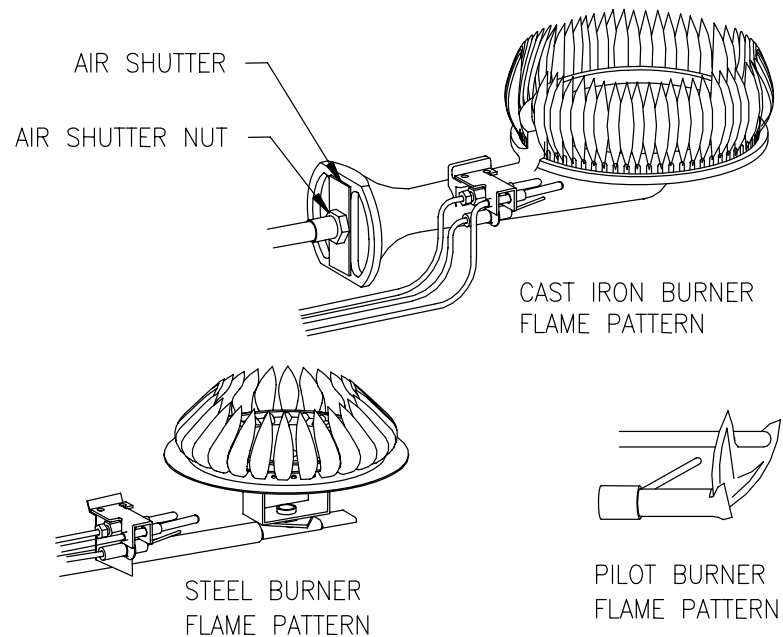

Figure 18
At the time of installation and at periodic intervals (not more than six (6) months), a visual check of the pilot and main burner flames should be conducted. The flames should be similar to those pictured below. The main burner should light smoothly from the pilot. (See Figure 18).